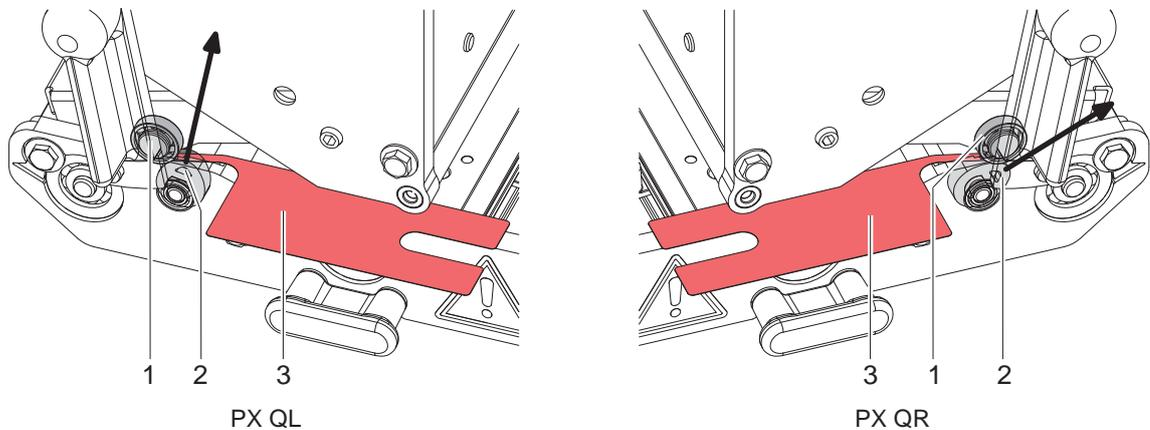

Figure 22 Checking the eccentrics position
- stand on the right of the ball bearing (1) ▷ Figure 22.